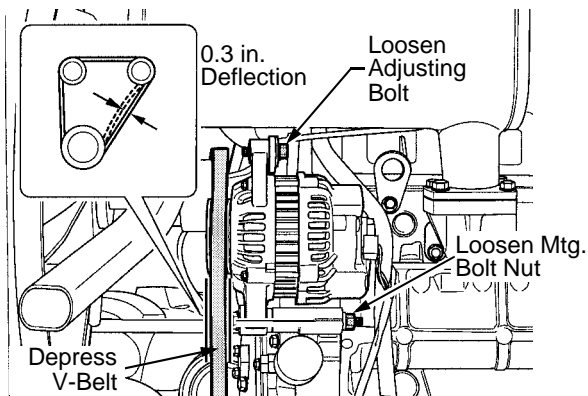

Figure 42
- With approximately 22 lbs. of pressure, depress the backside of the belt at its center point between the alternator and lower engine pulley. The deflection of the belt should be approximately 0.3 inches. See Figure 42.
- If adjustment is needed, loosen the nut on the alternator mounting bolt and loosen the adjusting bolt. See Figure 42.